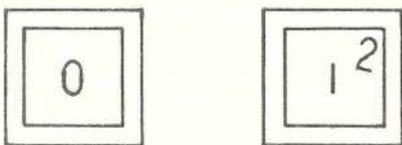

Fig.7
- Film number appears at the center of Exposure counter window. Fig. 7.